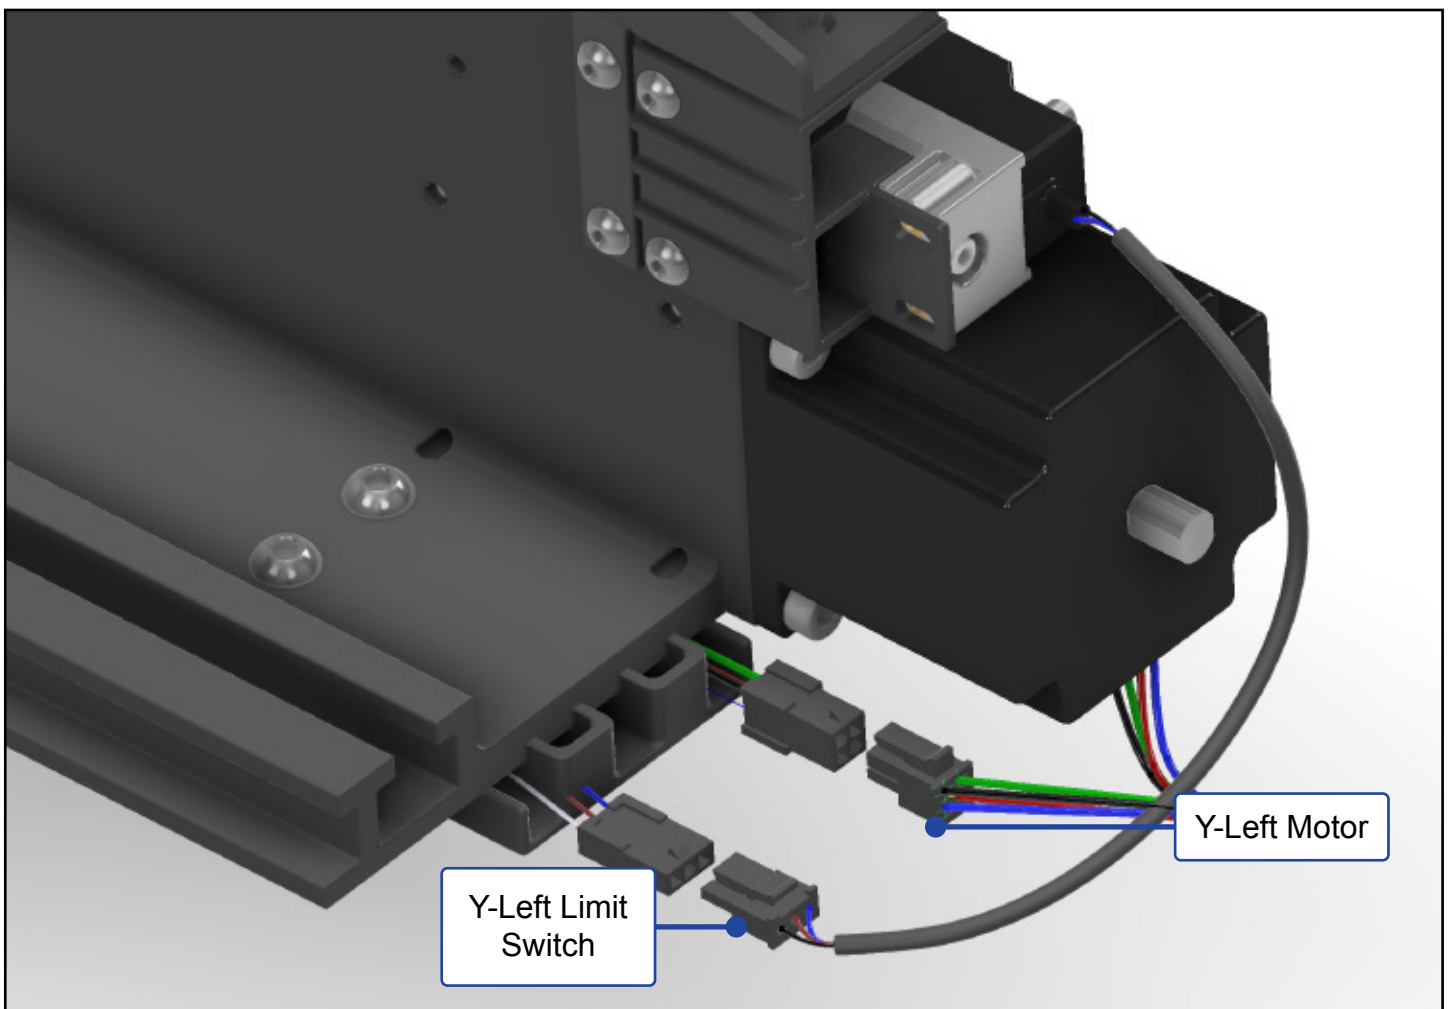

Figure 4-13
3. Connect the Y-Left stepper motor. See **Fig. 4-13**.
4. Connect the Y-Left limit switch. See **Fig. 4-13**.